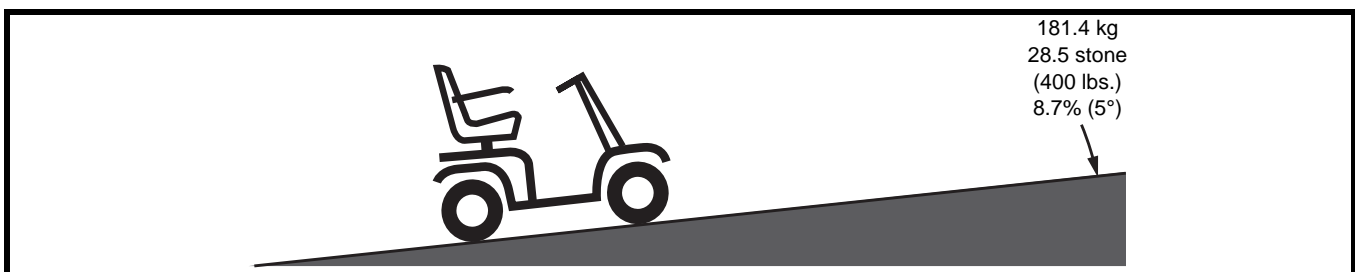

Figure 1. Maximum Recommended Incline Angle
**WARNING! Even though your scooter is capable of climbing slopes greater than those illustrated in figure 1, do not, under any circumstances, exceed the incline guidelines or any other specifications presented in this manual. Doing so could cause instability in your scooter.**
Handicap public access ramps are not subject to government regulation in all countries, and therefore do not necessarily share the same standard percent of slope. Other inclines may be natural or, if man-made, not designed specifically for scooters. **Figure 1** illustrates your scooter's stability and its ability to climb grades under various weight loads and under controlled testing conditions.
**WARNING! Any attempt to climb or descend a slope steeper than what is shown in figure 1 may put your scooter in an unstable position and cause it to tip.**